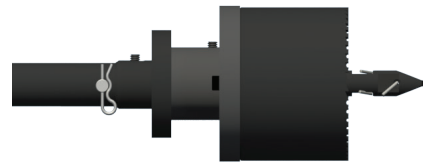

Figure 54
4.3.11) Insert set screw and cotter clip to lock adaptor in place (see Figure 54).